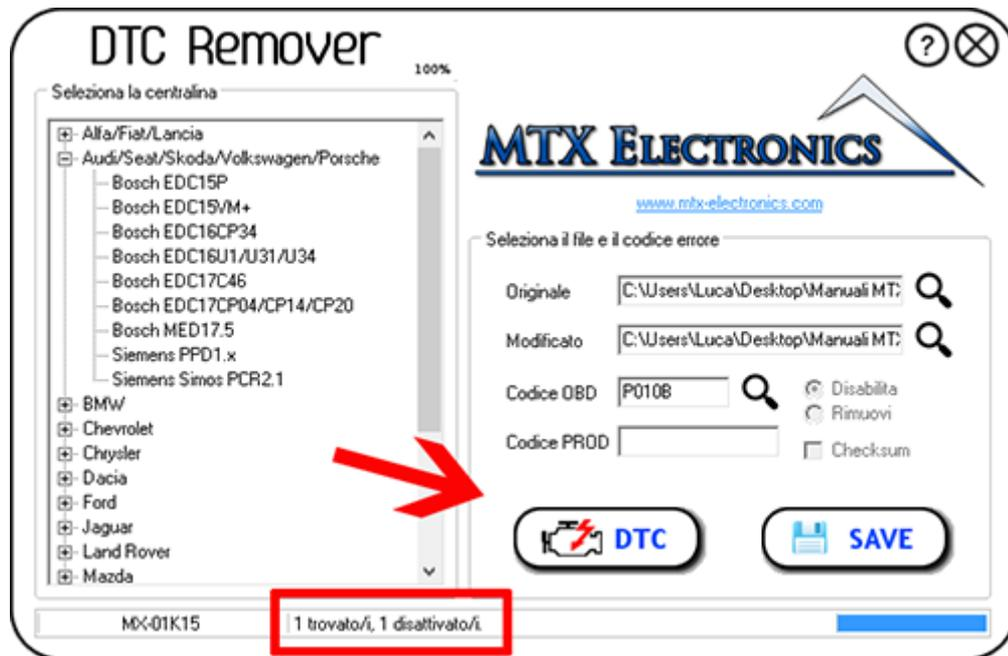
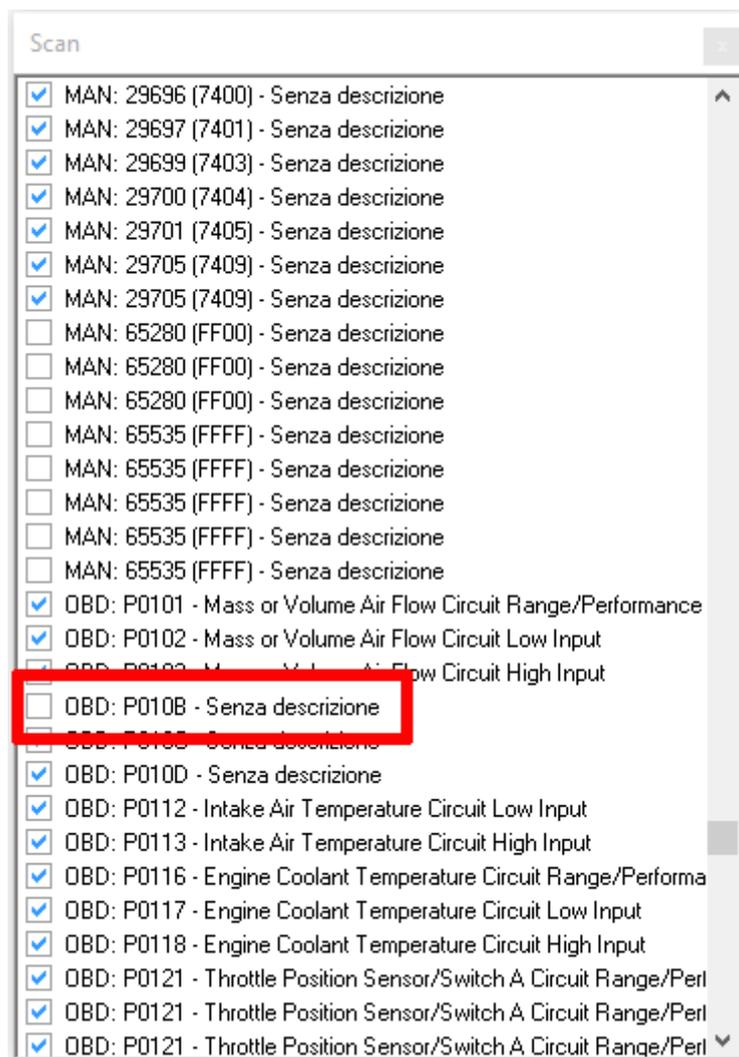

Figure 11
Figure 12
7. Added error code press the DTC button to process the file and after a while we will see in the info-bar an expression such as in Figure 11 , if you click again on the SCAN button will see that the selected first error no longer has the flag displayed ( Figure 12 ) demonstrating that the error was disabled;